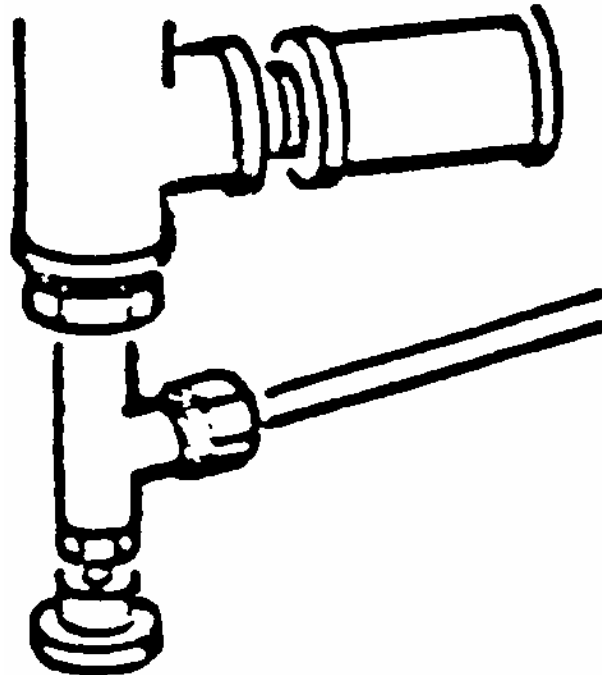

Figure 1-17. Chamber bleed valve.
b. **Adjust the Chamber Bleed Valve.** You adjust the chamber bleed valve to allow the liquid to evaporate without disturbing the liquid. Refer to figure 1-17.